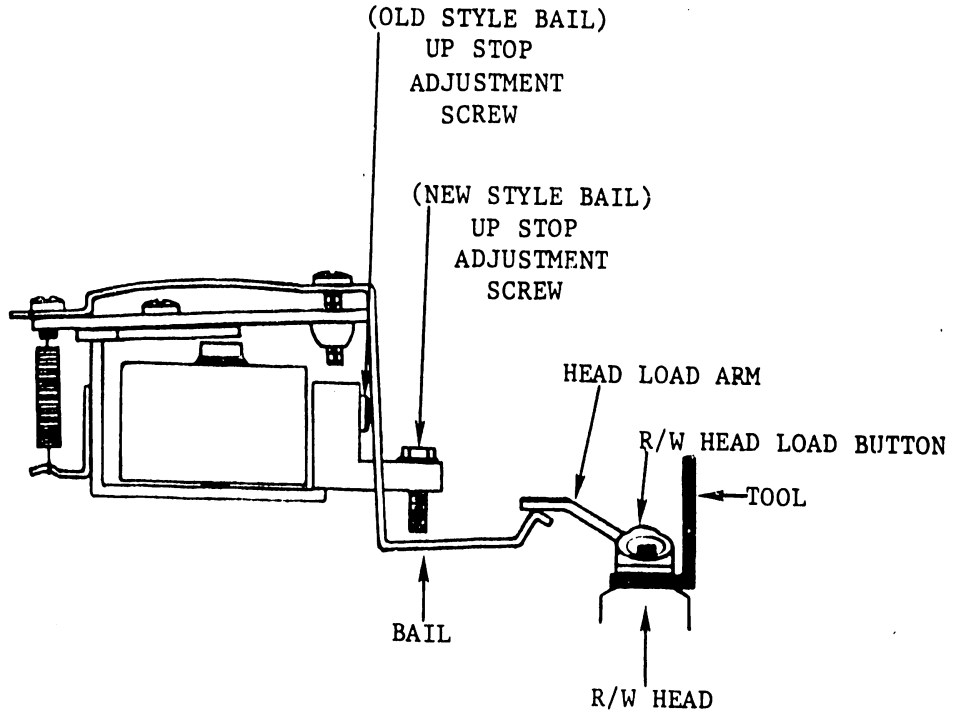

FIGURE 5-5
- c) Adjust the UP stop on the actuator so that the bail just touches the headload arm. (See Figure 5-5.)